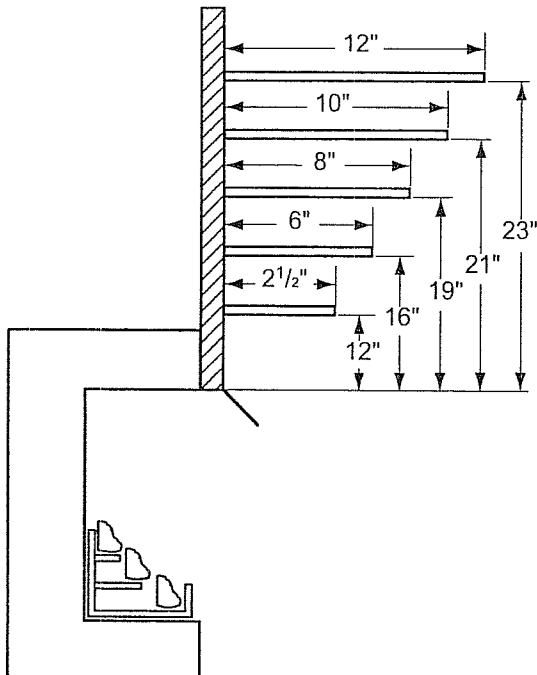

Figure 5 - Mantel Clearances
4. **Mantel clearances:** The canopy supplied with the unit must be installed. If a combustible mantel is installed, it must meet the clearance requirements as shown in *Figure 5*.